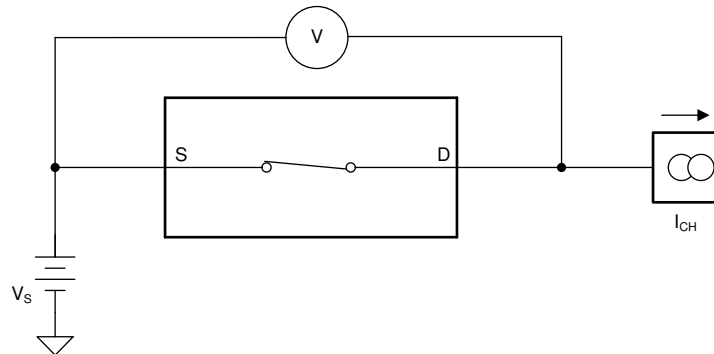

Figure 7-1. On-Resistance Measurement Setup
The on-resistance of the TMUX6136 is the ohmic resistance across the source (Sx) and drain (D) pins of the device. The on-resistance varies with input voltage and supply voltage. The symbol R_{ON} is used to denote on-resistance. The measurement setup used to measure R_{ON} is shown in Figure 7-1. Voltage (V) and current (I_{CH}) are measured using this setup, and R_{ON} is computed as shown in Equation 1.